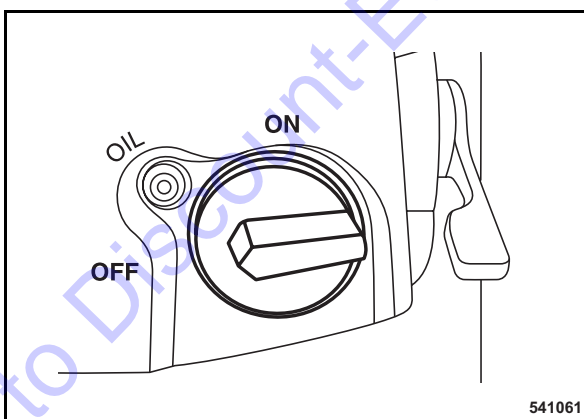

Fig. 34
- Set the engine stop switch (Fig. 34) to position "OFF" (fuel valve closed).